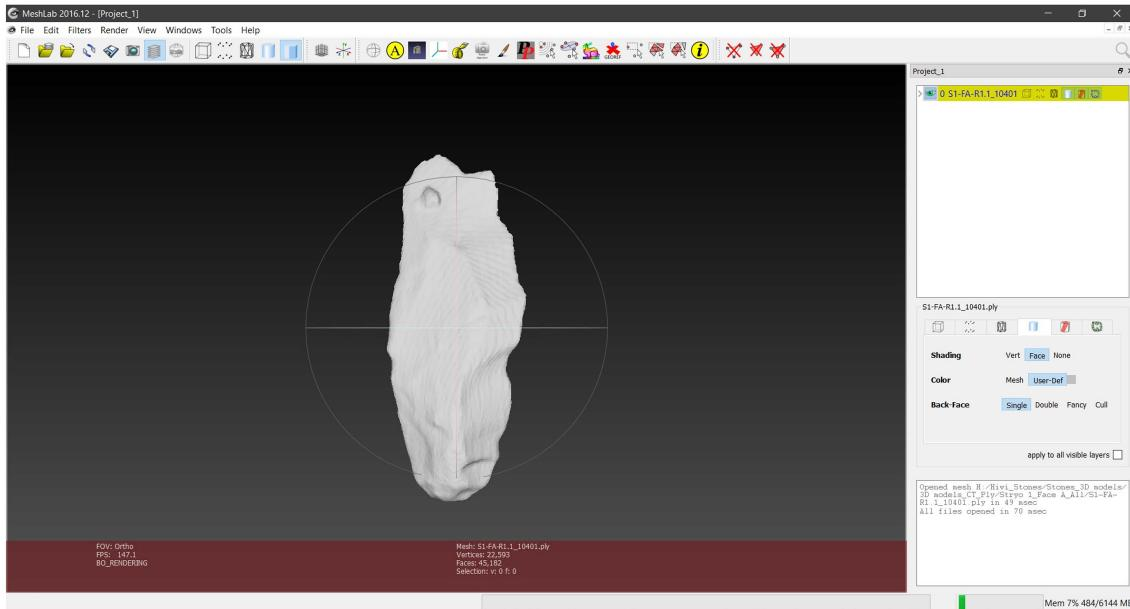

Fig. 35: Artefact opened in MeshLab.
Fig. 35: Lithic artefact fixed on a manual turntable using modeling clay. The turntable was covered with a white cardboard with randomly marked blue and red dots for better tracking. Left (A): Blade tool with proximal side down for the first scanning round. Right image (B): The same blade rotated of 180 degrees (distal side down) after the completion of the first scan.
- 79 To load the first artefact into MeshLab, drag the model file and drop it into the 3D View Panel of MeshLab. Alternatively, click on ‘File’ in the top menu bar and choose ‘Import Mesh’, then navigate to the target folder and choose and open the respective model by pressing ‘Open’ (Fig. 35)